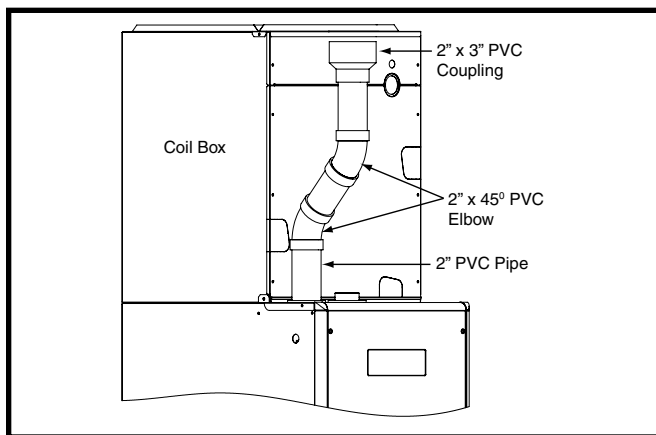

Figure 16. Optional PVC Pipe Installation
- If the size of the PVC flue needs to be increased from 2" to 3", two, 2" x 45° PVC elbows may be used to achieve the clearances needed between the coil box and the 2" x 3" coupling. See Figure 16.